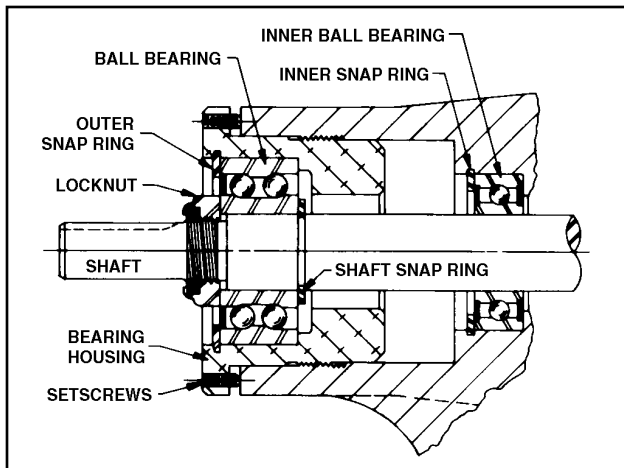
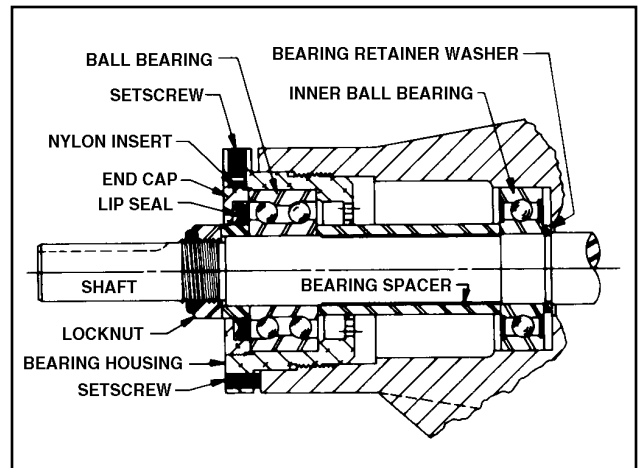

Figure 30 - Thrust-Bearing assembly (GG, HJ, HL)
Figure 31 - Thrust-Bearing assembly (AS, AK, AL)
5. Insert a brass bar or piece of hardwood in the port opening and between rotor teeth to keep shaft from turning. Turn the locknut counterclockwise and remove locknut. See Figure 30 or 31.
6. Loosen two setscrews in face of bearing housing and turn thrust bearing assembly counterclockwise and remove from casing. See Figure 30 or 31.
7. **GG, HJ, HL:** Remove snap ring from shaft. See Figure 30. **AS, AK, AL:** Remove bearing spacer from shaft. See Figure 31.
**10. AS, AK, AL:** Remove bearing retainer washer. The washer may have stayed with rotor and shaft when removed or is against ball bearing. See Figure 31.
**GG, HJ, HL:** Remove outer snap ring from bearing housing and remove ball bearing. See Figure 30.
**AS, AK, AL:** Loosen two set screws in flange outside diameter. Rotate end cap and lip seal counterclockwise and remove. Remove ball bearing. See Figure 31.
12. **GG, HJ, HL:** Install shaft snap ring in groove in the shaft. See Figure 30.
**AS, AK, AL:** Install bearing spacer over shaft and against single row ball bearing. See Figure 31.
13. Pack lubrication chamber between inner ball bearing and double-row ball bearing in the thrust-bearing assembly approximately one-half full of multipurpose grease, NLGI #2. The thrust-bearing assembly will take the remaining space. See Figure 30 and 31.
**GG, HJ, HL:** Install ball bearing into bearing housing with shield side toward coupling end of shaft. See Figure 30. Install snap ring into bearing housing to retain ball bearing. This snap ring has a tapered edge to fit tapered groove in bearing housing. The tapered edge is located away from ball bearing.
**AS, AK, AL:** Install ball bearing into bearing housing. Install lip seal in bearing housing end cap. The lip should face towards end of shaft. Put bearing spacer collar in lip seal and install in bearing housing and tighten setscrews securely. See Figure 31.
See Figures 30 and 31.